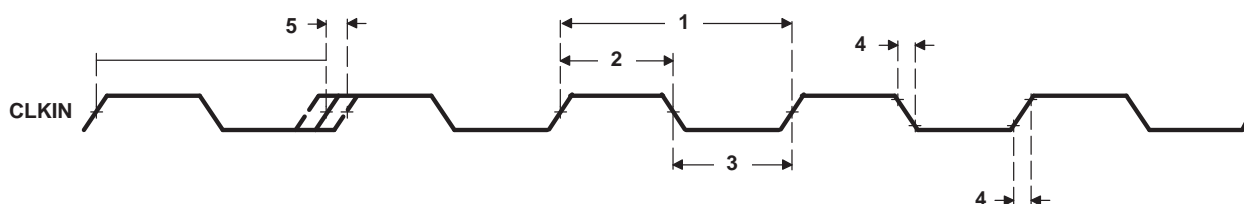

Figure 5-11. CLKIN Timing
- (1) These clock frequency range values are applicable to a DM642-600 speed device. For –500 and –720 device speed values, see the CLKIN timing requirements table for the specific device speed.
- (2) Use external pullup resistors on the CLKMODE pins (CLKMODE1 and CLKMODE0) to set the DM642 device to one of the valid PLL multiply clock modes (x6 or x12). With internal pulldown resistors on the CLKMODE pins (CLKMODE1, CLKMODE0), the default clock mode is x1 (bypass).
- (3) Under some operating conditions, the maximum PLL lock time may vary by as much as 150% from the specified typical value. For example, if the typical lock time is specified as 100 μ s, the maximum value may be as long as 250 μ s.
Table 5-13. Timing Requirements for CLKIN for –500 Devices^{(1) (2) (3)} (see Figure 5-11)
- (1) The reference points for the rise and fall transitions are measured at V_{IL} MAX and V_{IH} MIN.
- (2) For more details on the PLL multiplier factors (x6, x12), see the *Clock PLL* section of this data sheet.
- (3) C = CLKIN cycle time in ns. For example, when CLKIN frequency is 50 MHz, use C = 20 ns.
Table 5-14. Timing Requirements for CLKIN for –600 Devices^{(1) (2) (3)} (see Figure 5-11)
Table 5-15. Timing Requirements for CLKIN for –720 Devices^{(1) (2) (3)} (see Figure 5-11)